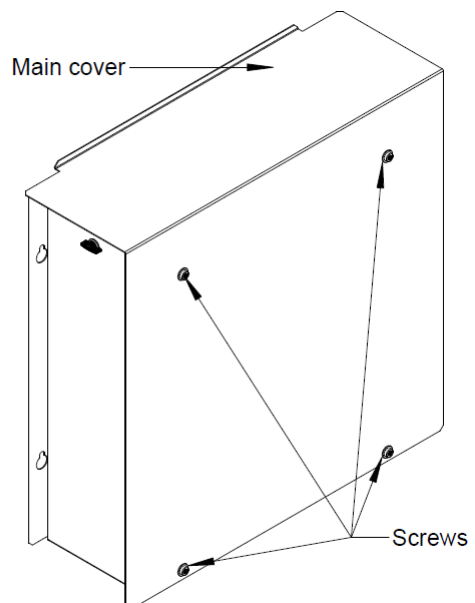

Figure A4
- Place the Main cover onto the right hand side of the housing and secure in place. - Figure A4